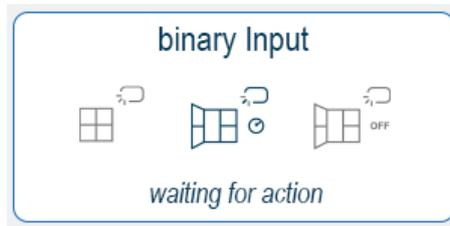

Figure 4.6 State 2 waiting for action.
- **State 2:** Waiting for action (See Figure 4.6)